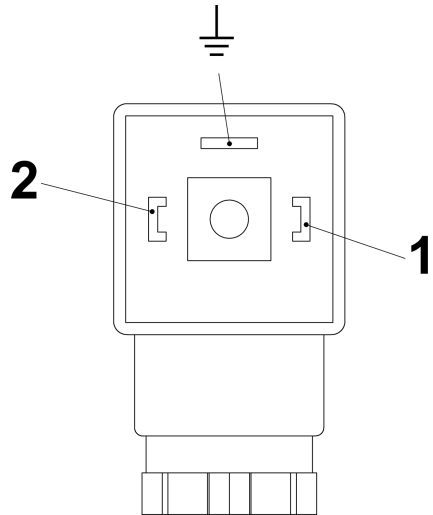
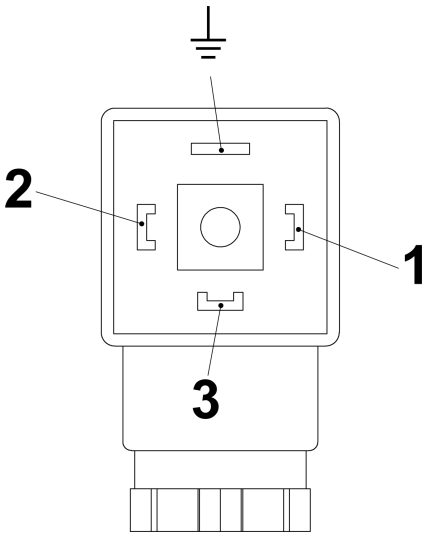

Fig. 27: Pin assignment, plug socket, Normally Open Contact (SG-30 with connector in compliance with EN175301-803)
Fig. 28: Pin assignment, plug socket, Change Over Contact (SG-30 with connector in compliance with EN175301-803)
6. ➤ Make the connections as shown in the connection diagrams (Fig. 27 and Fig. 28)